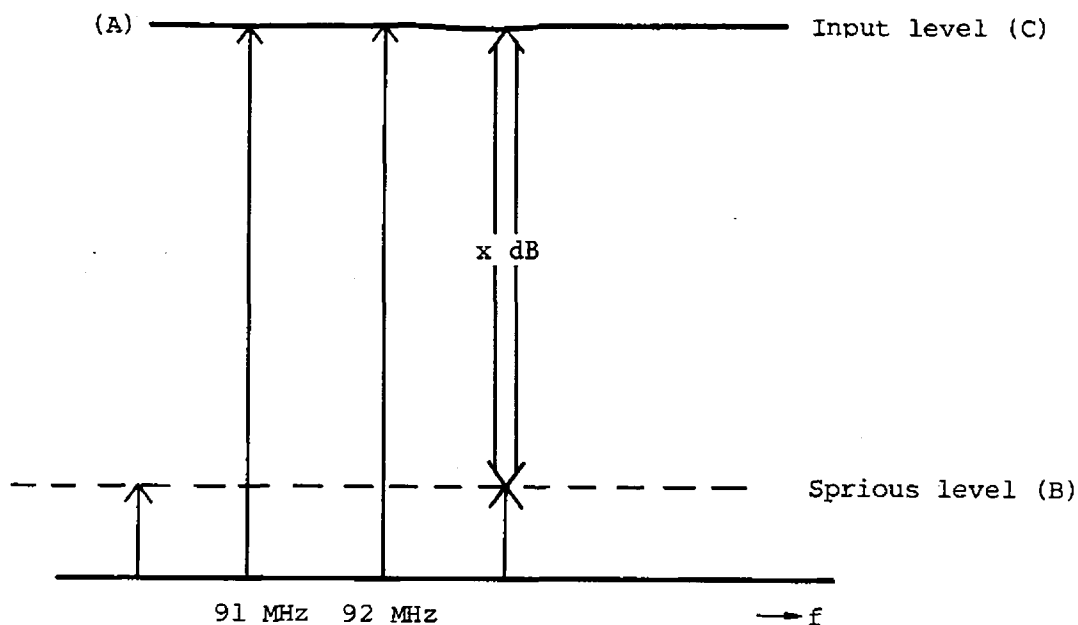

Fig. 4-4 Two-signal characteristic measurement
- ⑦ Read the difference between the input level and distortion level with the delta marker (see Figure 4-4).